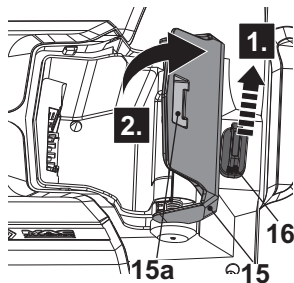

Fig. 8
1. Remove the safety key (16) and keep it avoid loss (Fig. 8, step 1).
2. Hold the groove (15a) and open the battery cover (15) (Fig.8, step 2).